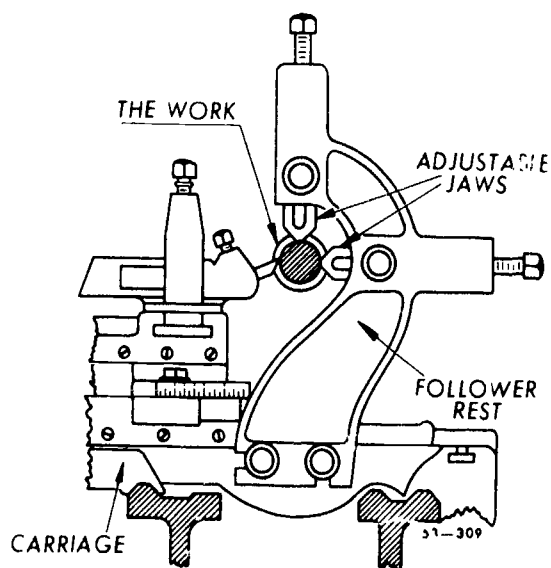

Figure 5-62. Follower rest.
**Follower Rest.** Long shafts that are likely to be sprung out of alignment by the thrust of the cutting tool often require the support of a follower rest, figure 5-62. A follower rest mounts on the